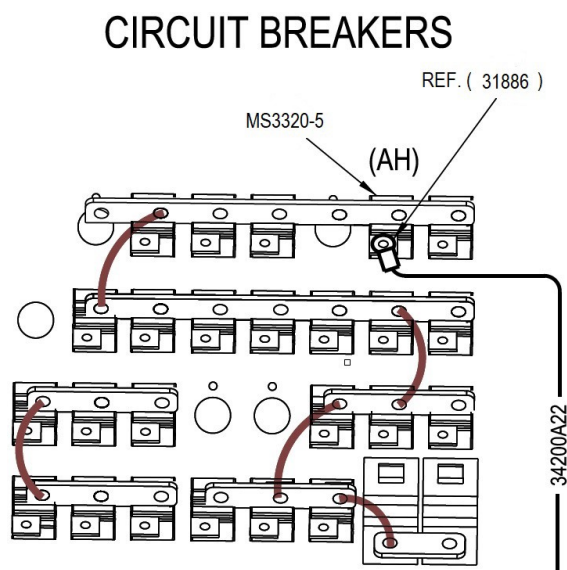

Figure 6. Circuit Breakers.
13. Replace the AH circuit breaker cap with the 5 A circuit breaker (item 11). Locate wire 34200A22 in the circuit breaker bundle. Crimp the wire with item 13 if the ring terminal is not present. See Figure 6.